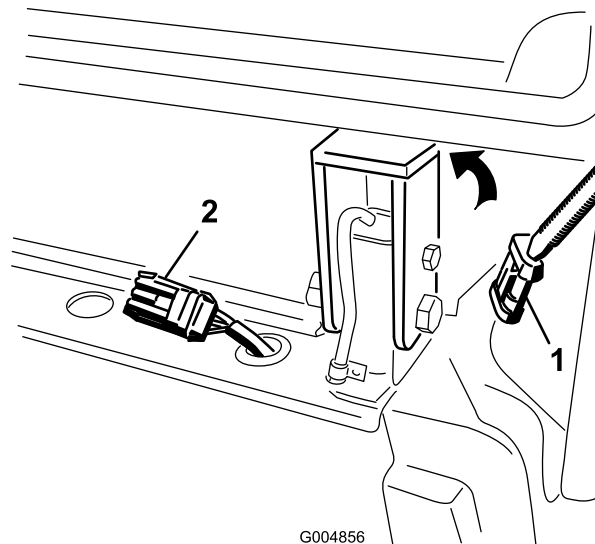

Figure 53
27. Remove the cap and plug the cab wire harness connector into the harness on the rear frame mount (Figure 53).